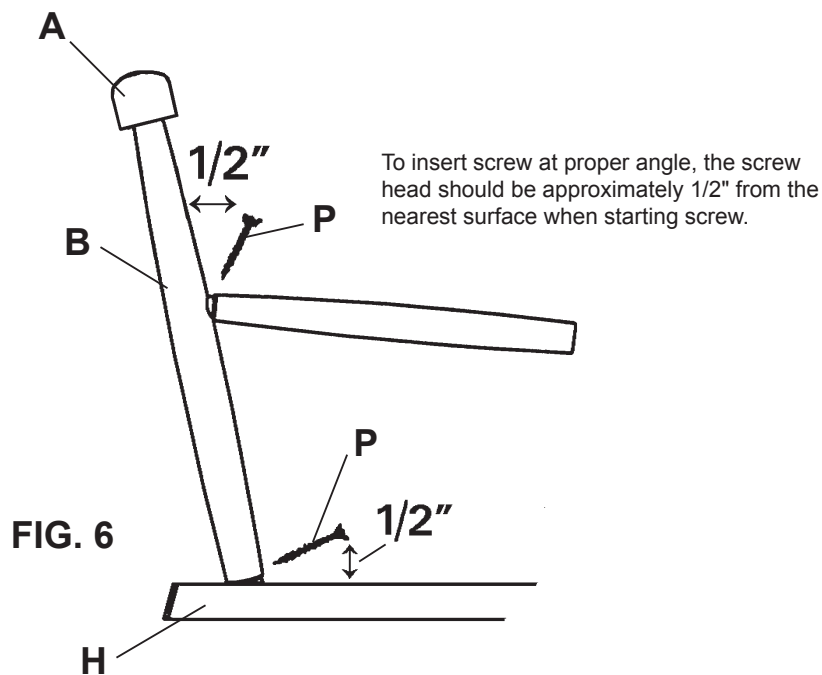

FIG. 6
- 6) Screw a #6 x 1 1/4" Black Pan Head Screw (P) through each leg chuck into the seat and through both stretchers into the legs. The screws must be inserted at such an angle so that they do not go through the other side of the seat or leg. See FIGURE 6.